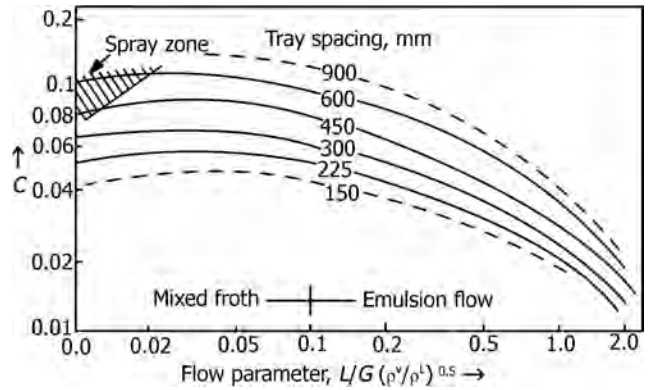

FIGURE 16.14 Flooding correlation for cross-flow trays (sieve, valve, and bubble cap trays).
- Figure 16.14 represents generalized correlation for obtaining maximum allowable vapor velocity.